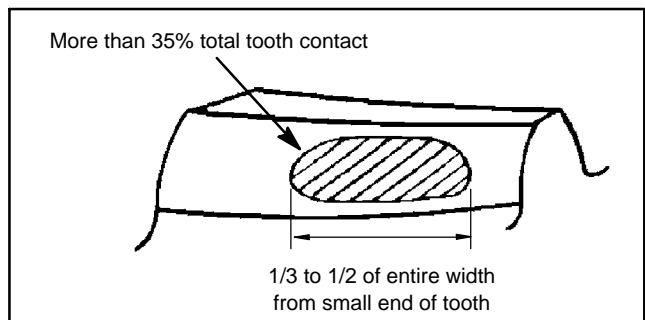

Figure 40
9. Ideal tooth contact should cover more than 35% of each tooth surface. The contact area should be in the center of each tooth and extend 1/3 to 1/2 way across each tooth from the toe (small) end (Fig. 40).